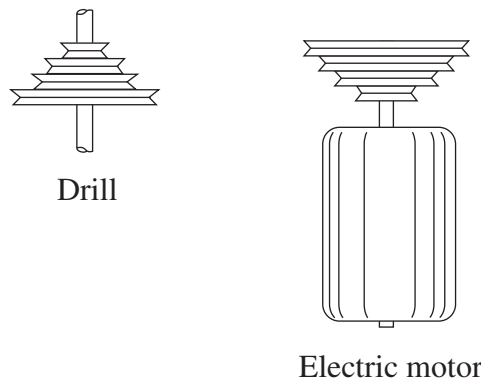

Figure 3
- (a) A drill press has a four-step vee belt cone pulley drive as shown in Figure 3. **2**
Using Figure 3, draw the vee belt in a position to give a drill speed of 1000 revolutions/minute.